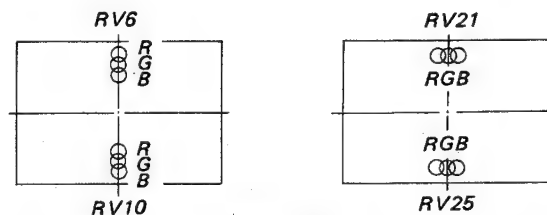

Fig. 1-12.
3. Adjust RV6, RV10, RV21, and RV25 on the DB board to coincide with the R, G and B dots as shown in Fig. 1-12.